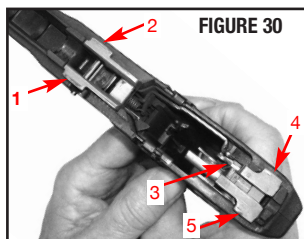

FIGURE 30
- There are seven (7) lubrication points where a single drop of high-quality firearms lubricant should be applied. This will ensure proper lubrication. Care should be taken not to over-lubricate. Excess lubricant can collect quantities of unburned powder and carbon residue, which could interfere with proper functioning of the pistol (FIGURES 30 & 31).